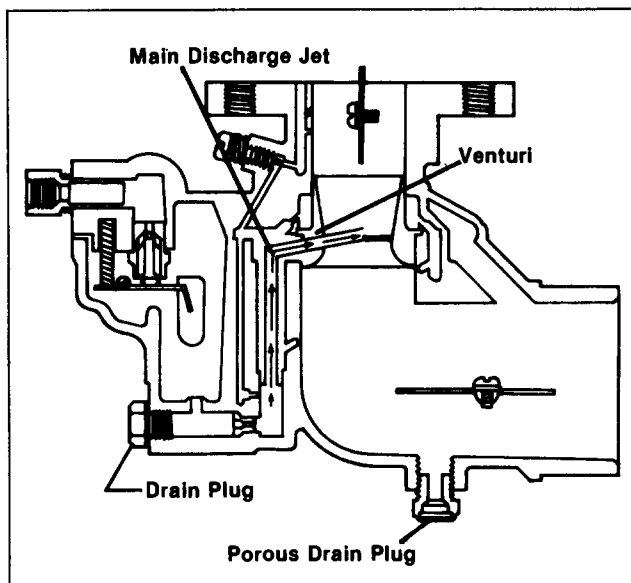

Figure 1
All carburetors have a drain plug in the bottom of the carburetor bowl which should be removed and drained dry, Figure 1.
**IMPORTANT:** On all gasoline engines with updraft carburetors, it is very important not to paint over the powdered bronze carburetor drain plug shown in Figure 1. This has to remain porous to drain off excess gasoline from over choking. If this plug is sealed, gas can back up into the air cleaner hose and create a fire hazard.